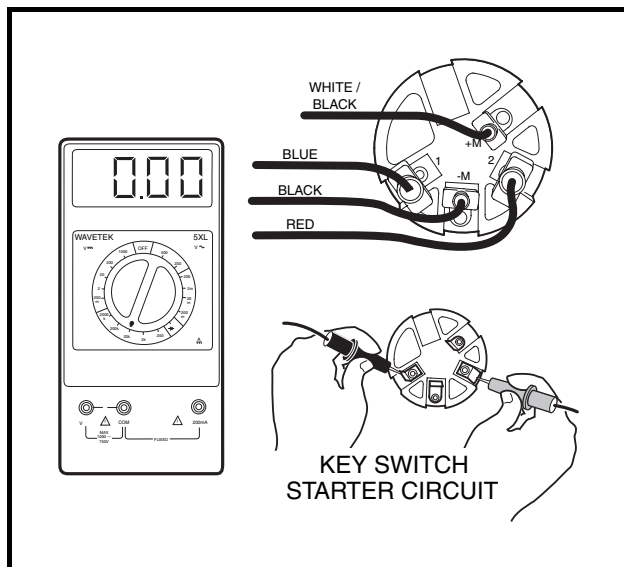

Figure 11-13 Test Key Switch – Engine Starter Circuit
4. Insert the key and turn the switch to ON. Place the red (+) probe of the multimeter on the No. 2 terminal and the black (–) probe on the No. 1 terminal of the key switch. The reading should be continuity. If the reading is incorrect, replace the key switch (**Figure 11-13, Page 11-17**).